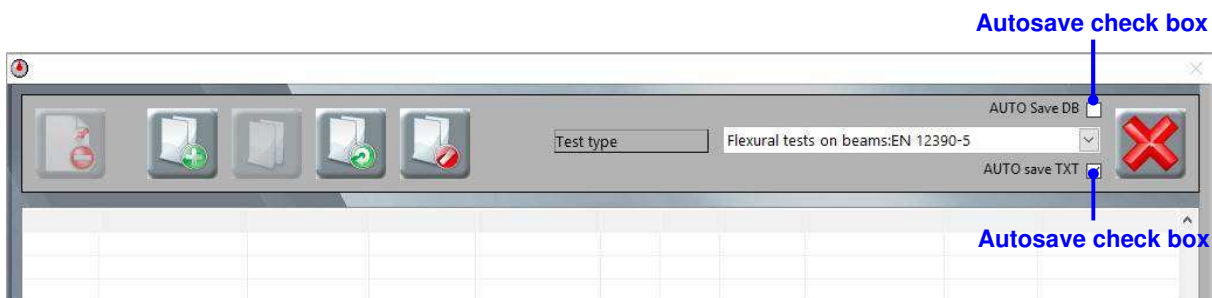

Fig. 6-17
6.  If you want the tests to be automatically saved, click the **Results** button to open the **Results panel** and make sure that the autosaves are ticked (see Fig. 6-17).